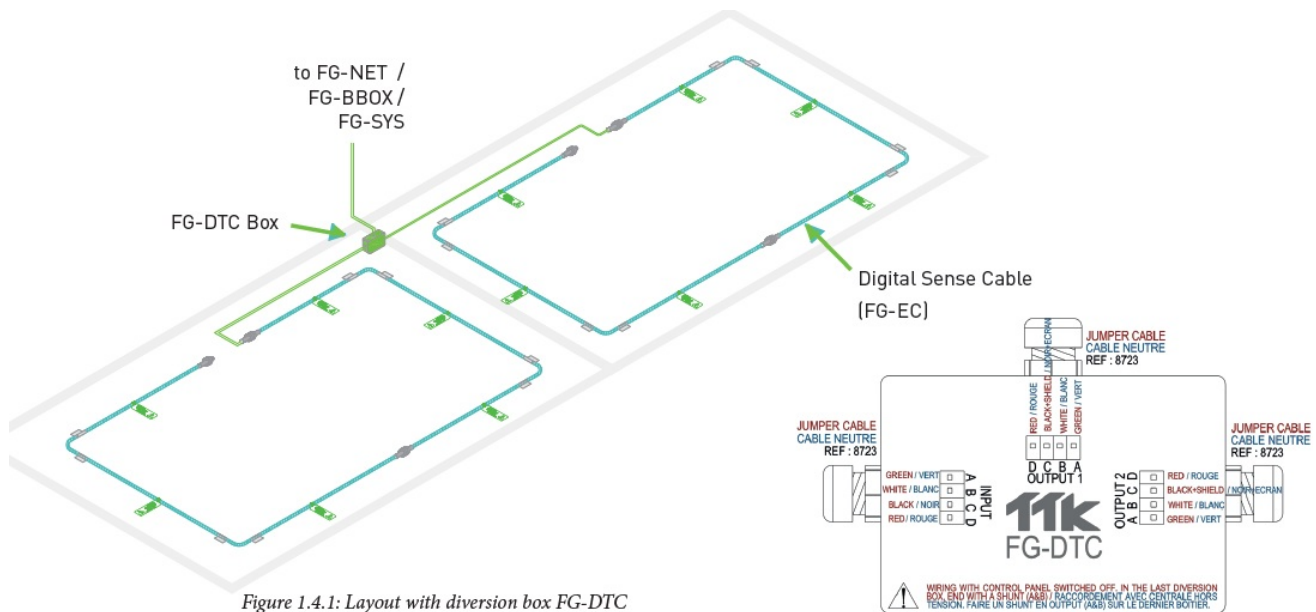

Figure 1.4.1.1: Diversion box FG-DTC cabling diagram
- The digital diversion box FG-DTC makes it possible to split a detection circuit into two parts, so as to allow the system to cover more horizontal space (figure 1.4.1).